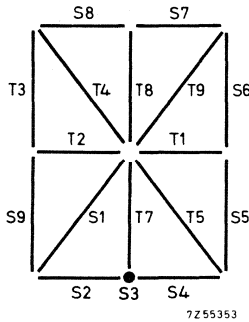

Fig. 1 Starburst pattern segments
For a starburst character, 17 activating signals are used for the 17 segments of the pattern. Since only 9 output lines are available in the FDR106Z1, the complete bit pattern for each character must be stored in two 9-bit words; thus a total of 128 words are used for 64 characters. Fig. 1 shows the segments controlled by the output bits of the first (S) and second (T) word for each character. The S word contains 9 segment signals and the T word 8. The ninth bit of ROM T(T6) is not used. A logic 1 output signal (nominally -12 V) represents an activated (ON) segment signal. The starburst character generation function is selected by setting address bit A₈ to 0 V (V_{P0} or HIGH signals). S words are selected by setting address bit A₅ to 0 V (HIGH) and T words by setting address bit A₅ to -10 V (LOW). Address bits A₁, A₂, A₃, A₄, A₆ and A₇ are used to select any one of the characters. The input character code is a subset of the standard ASCII 7 bit code derived by using ASCII bits b₁, b₂, b₃, b₄, b₅ and b₇ according to the following table: